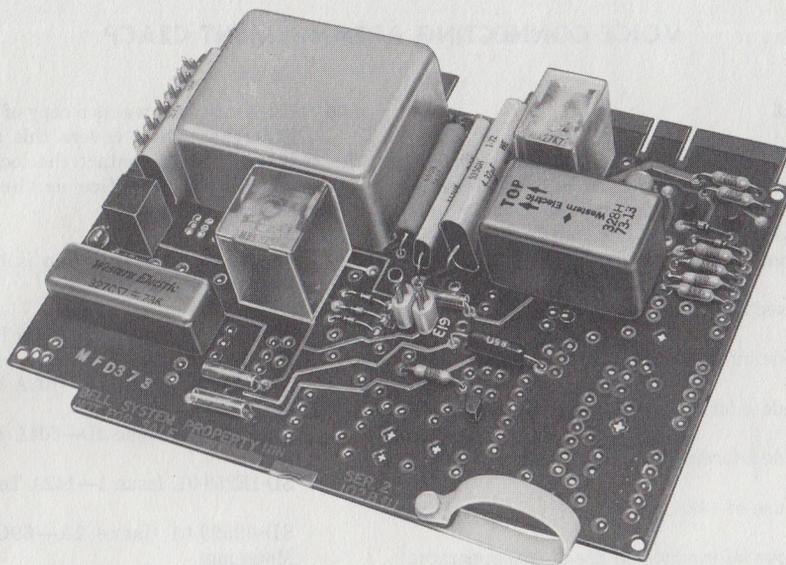

Fig. 1—102B Interconnecting Unit
**1.03** The 102B IU (Fig. 1) is an improved version of the 102A IU with option terminals for line impedance matching. No pulse correction is required. In existing installations using pulse correction, the 103A pulse correctors must be removed when replacing the 102A IUs with 102B IUs. The 102B IU also increases the range limitation to the customer-provided equipment (CPE) from 18 ohms to 100 ohms maximum on the supervision leads (CS and CG).
- Unit, Interconnecting, 102A or 102B (one per CO line, Fig. 1).
- Option terminals (Fig. 1)